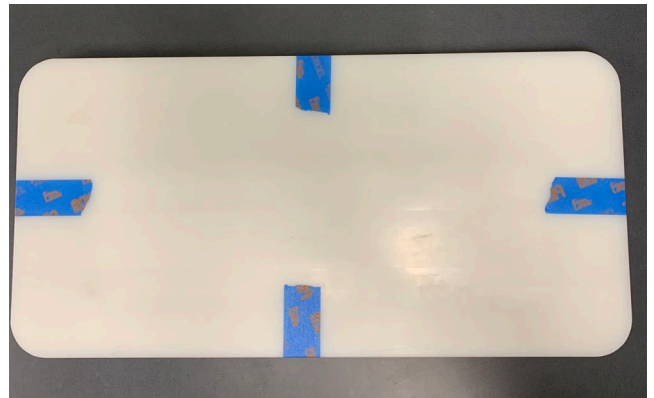

FIGURE 4
6. Place the top half of the phantom over the bottom half, and secure with tape. See Figure 4 above. The phantom is now ready to be placed for irradiation.